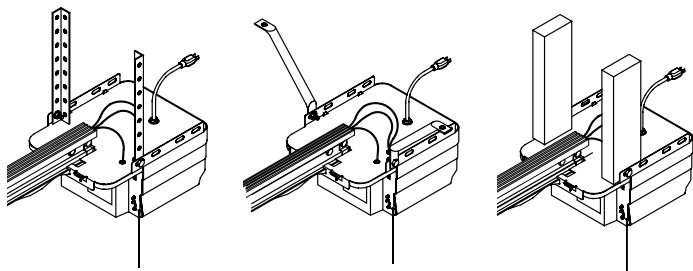

Figure 6 Mounting methods for open beam or finished ceilings
- B** Find location of ceiling joist or truss above where Opener Power Head will be and estimate type and quantity of materials needed for your installation (**Figure 6**).